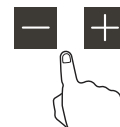

Fig.15
3. Set the timer using the “+ or -” key, which can be timed for 00-99 minutes. Touch the “-“or “+”button of the timer once, the time will decrease or increase by 1 minute. Touch and hold the ”-“or “+”button of the timer, the time will decrease or increase by 10 minutes. The hob will enter the countdown state 5s after time setting. The display starts to countdown by second when the time remaining is 1 minute. (Fig. 15)